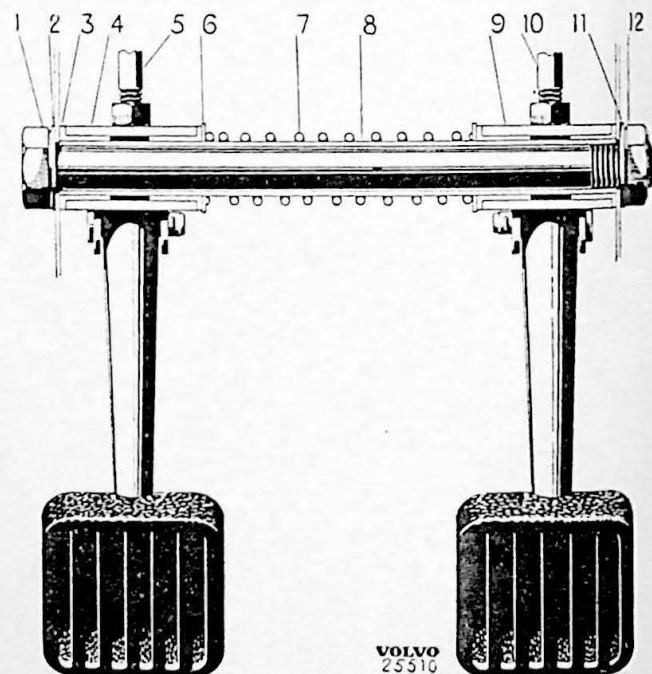

Fig. 2-15. Pedal shaft
1. Remove the split pins and bolts in the pedals. Remove the return spring. Slacken the bolt and nut for the pedal shaft (8) Fig. 2-15. Remove the pedals (4, 9) and shaft.
2. Knock out the bushings (3) with a suitable drift. Press in the new bushings.